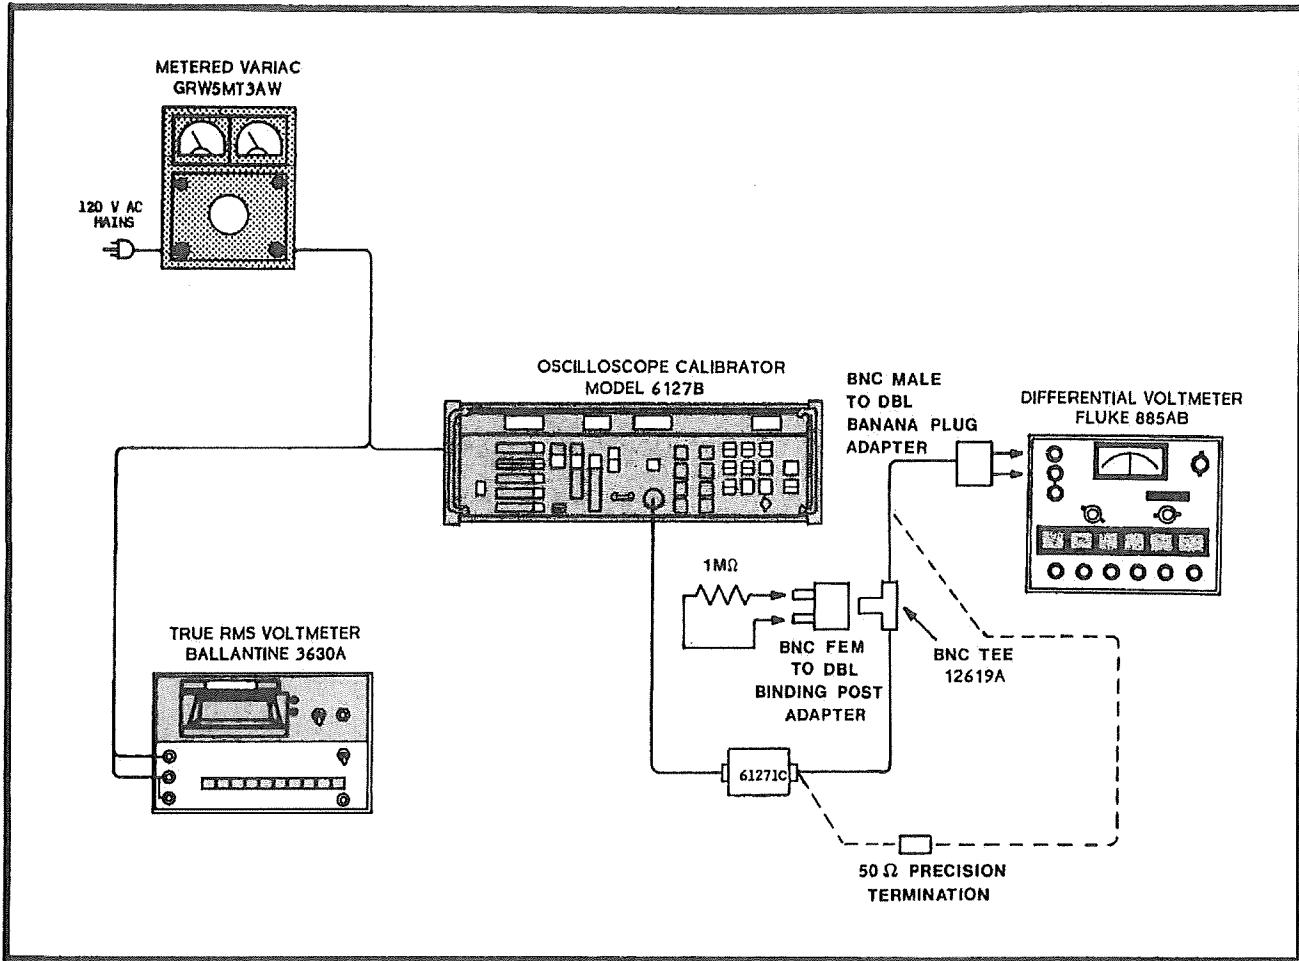

Figure 5-3. VOLTS/DIV Output Check, Test Set-Up
a. Connect the equipment as shown in figure 5-3. Select battery power mode for the voltmeter. This check is applicable for a $1 M\Omega$ load on the 61271C Head.
b. Connect a precision $50 \Omega \pm 0.1\%$ termination between the 61271C OUTPUT BNC and the differential voltmeter. See figure 5-3.